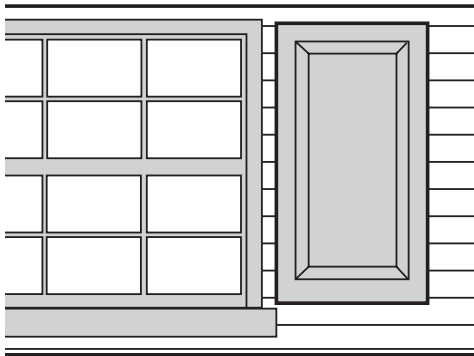

Figure 1 / Figura 1
1. Place the shutter next to the window at the desired location (see Figure 1).